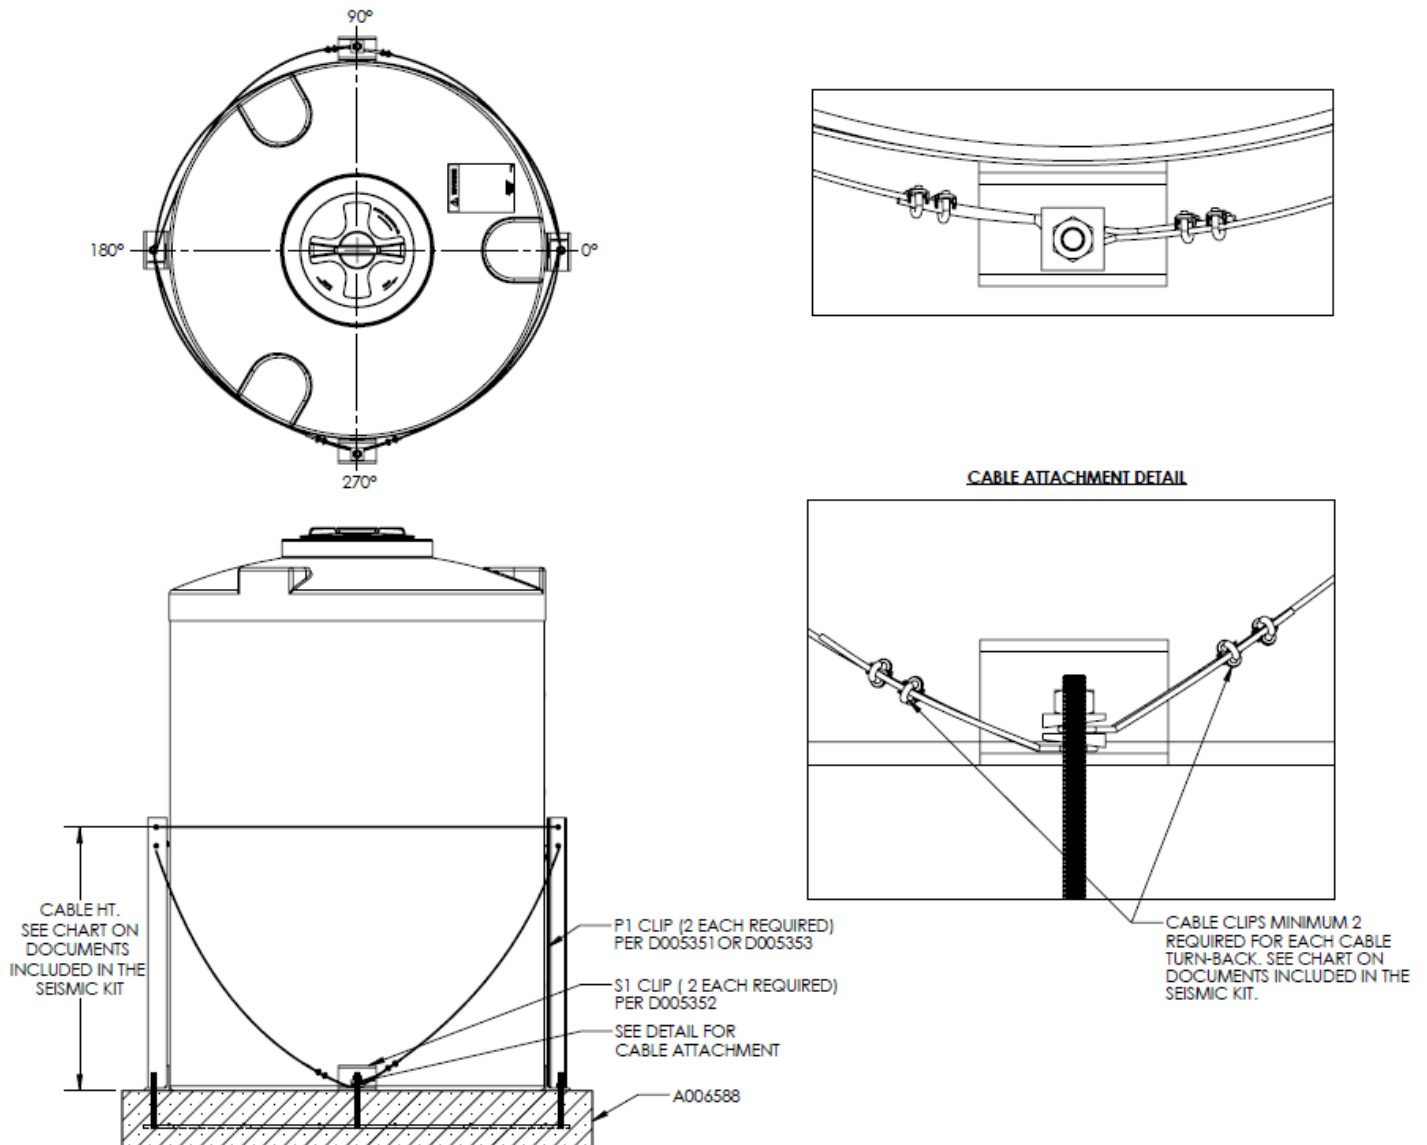

Figure 8.3
8.3.1 The wind/seismic tank restraint system is designed for tanks with no molded in lugs on an appropriate concrete pad under 150 MPH wind. Using the assembly drawing and table shown in Figure 8.3, verify that all parts are present.